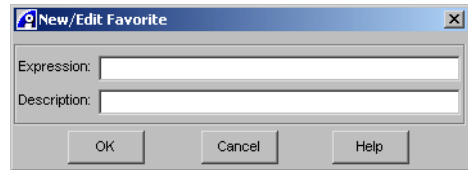

Figure 7-12 New/Edit Favorite dialog box
1. Click **New** to display the New/Edit Favorite dialog box shown in Figure 7-12.